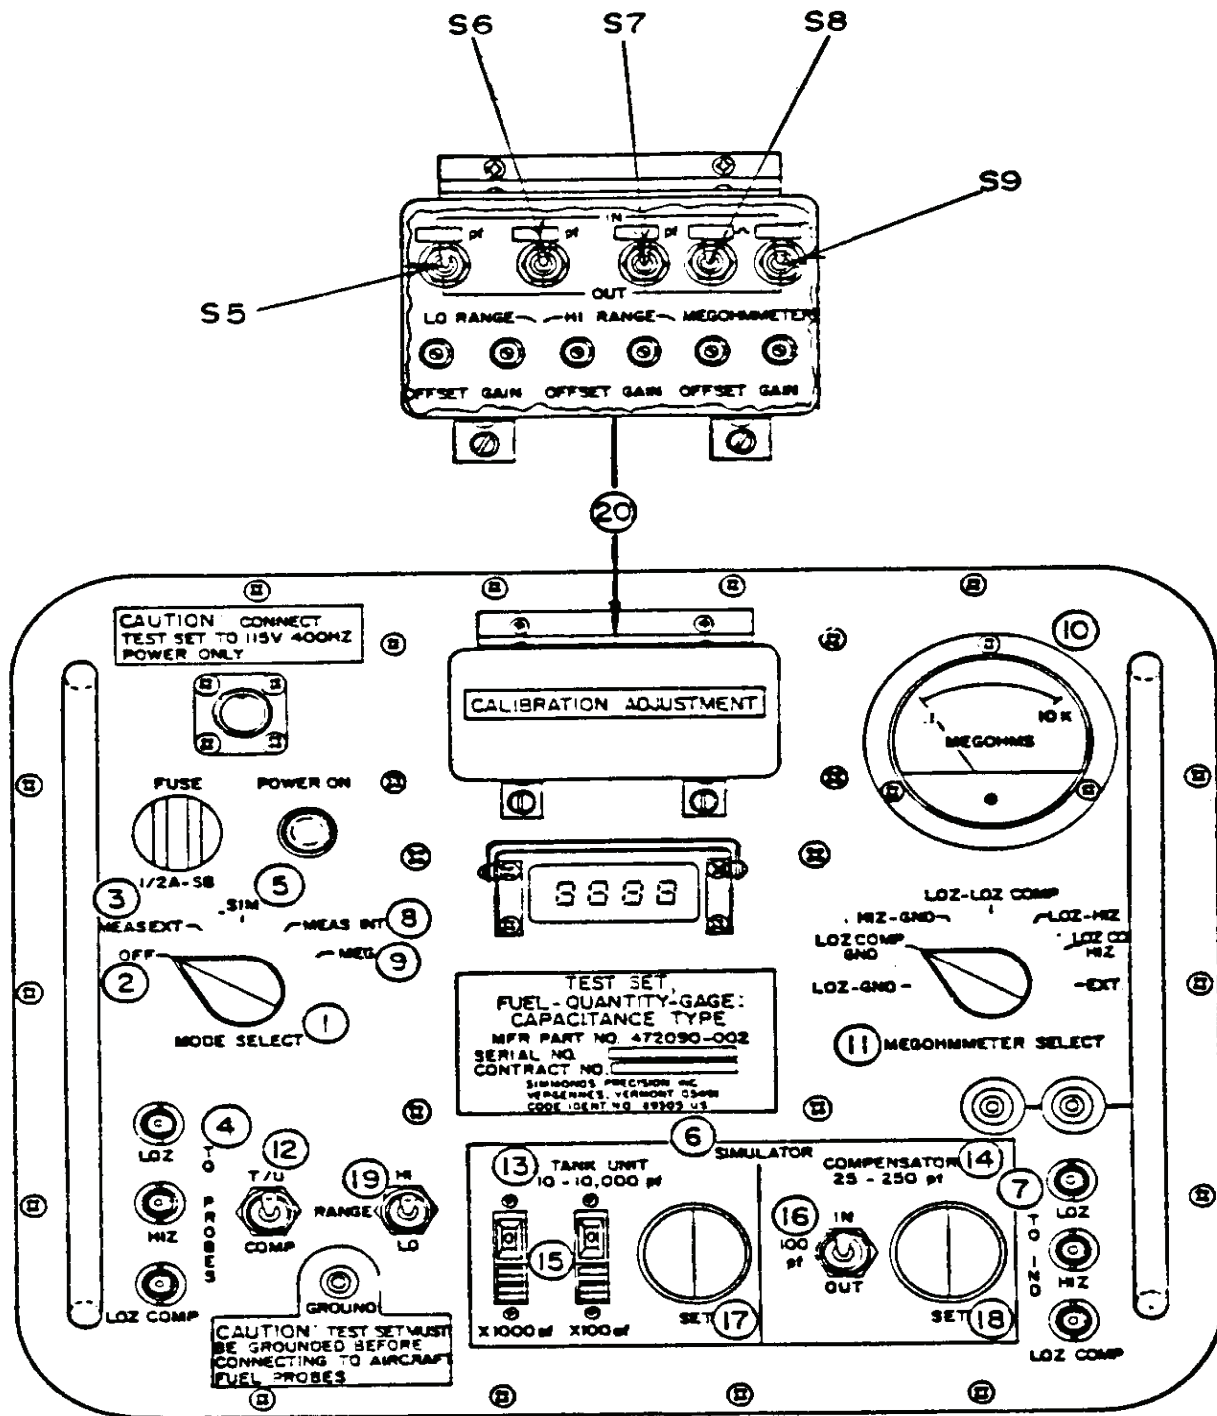

Figure 1. Simmons Precision, Inc. Model 472090-002, controls and adjustments locations.
- (1) Set switches as listed in (a) and b below:
- (2) Open the **CALIBRATION ADJUSTMENT** cover (fig. 1) and set all switches to **OUT** position.
- (3) Set S5 (left most toggle switch, fig.1) to the **IN** position.
- (4) If digital display does not indicate value stamped above S5 (fig.1), perform **b** (1) below.
- (5) Set switches as listed in (a) through (c) below (fig. 1).
- (b) S6 to **IN** position. If digital display does not indicate value stamped above S6 perform **b** (2) below.
- (6) Repeat (3) through (5) (c) above until both display values are equal to value stamped above each switch and no further adjustments are required.
- (7) Set switches as listed in (a) through (g) below (fig 1):
- (b) S6 to **IN** position. If display does not indicate value stamped above S6, perform **b** (3) below.
- (c) S6 to **OUT** position and S7 to **IN** position. If display does not indicate value stamped above S7, perform **b** (4) below.
- (f) S8 to **IN** position. If **MEGOHMS** meter does not read value stamped above S8, perform **b** (5) below.
- (g) S8 to **OUT** and S9 (farthest right toggle switch fig.1) to **IN** positions.
- (8) If **MEGOHMS** meter does not read value stamped above S9 (fig 1), perform **b** (6) below.
- (9) Set S9 switch (fig.1) to **OUT** position.
- (1) Adjust **LO RANGE OFFSET** trimmer screw (fig. 1) until display reads same as value stamped above S5 switch (fig.1) (R).
- (2) Adjust **LO RANGE GAIN** trimmer screw until display reads same as value stamped above S6 switch (fig.1) (R).
- (3) Adjust **HI RANGE OFFSET** trimmer screw until display reads same as value stamped above S6 switch (fig.1) (R).
- (4) Adjust **HI RANGE GAIN** trimmer screw until display reads same as value stamped above S7 switch (fig.1). If necessary repeat (3) above until no further adjustments are required (R).
- (5) Adjust **MEGOHMMETER OFFSET** trimmer screw until **MEGOHMS** meter reads same value as stamped above S8 switch (fig.1) (R).
- (6) Adjust **MEGOHMMETER GAIN** trimmer screw until **MEGOHMS** meter reads same value as stamped above S9 switch (fig.1). If necessary repeat (5) above until no further adjustments are required (R).
- (1) Set **MODE SELECT** switch to **MEAS EXT** position.
- (2) Set **RANGE** switch to **LO** position.
- (3) Connect shorting plug (p/o TI) to **TO PROBES LOZ COMP** (fig 1).
- (4) Connect variable capacitor to TI, G to **TO PROBES LOZ** and 115 to **TO PROBES HIZ**.
- (5) Adjust variable capacitor to 40 pF. TI display will indicate between 39.8 and 40.2 pF.
- (6) Repeat technique of (5) above for settings and indications listed in table 3.
- (1) Set switches as listed in (a) through (c) below:
- (c) S8 switch (fig. 1) to **IN**.
- (2) If **MEGOHMS** meter does not indicate value stamped above S8 switch (fig. 1), perform **b(1)** below.
- (3) Set S8 switch (fig. 1) to **OUT** position and S9 switch (fig. 1) to **IN**.